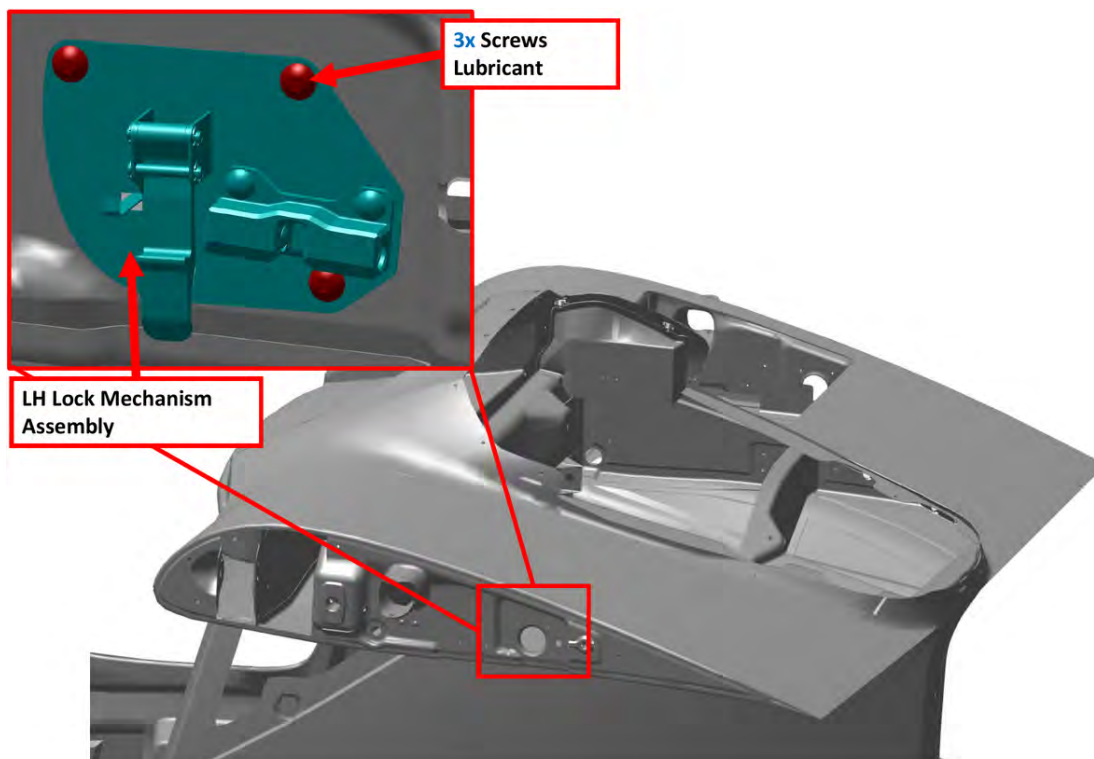

FIGURE 18-6
2. Use a T15 Torx drive to remove the three 8-32 truss-head screws attaching the wing lock switch plate assembly to the fuselage BL38 Rib. See Figure 18-6.